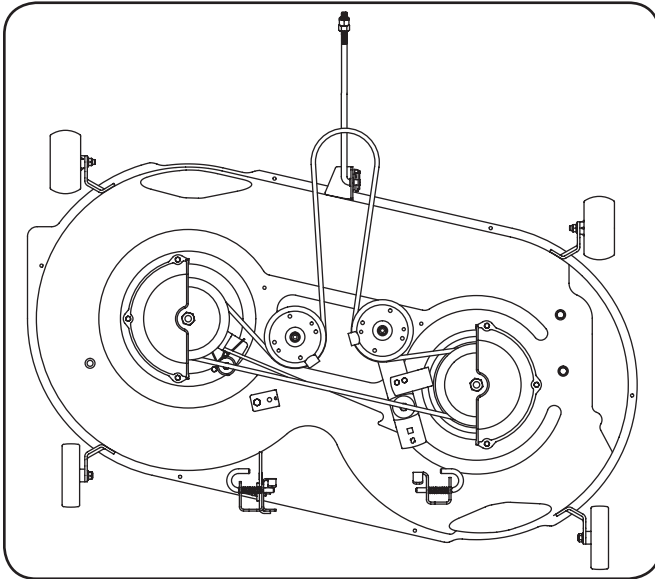

Figure 7-7
6. To place the new belt, begin by routing the belt around the two outer spindle pulleys as shown in Fig. 7-7.
7. Then route the belt around the two deck idler pulleys as shown in Fig. 7-7.